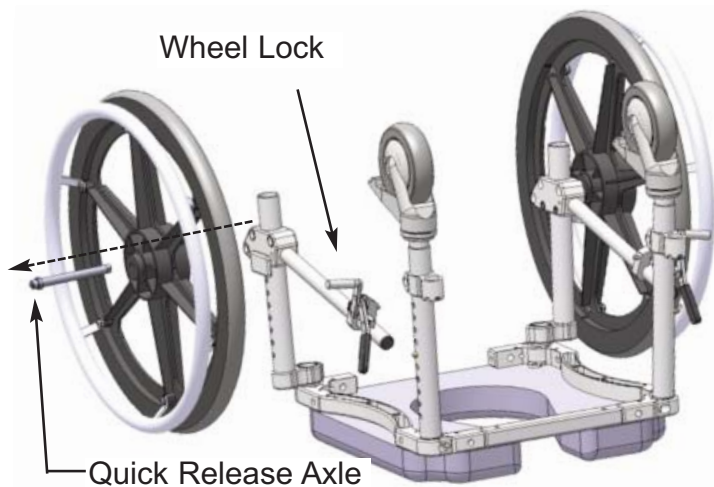

Figure 10
**C Removal of 20", 22" or 24" Wheels:** If desired (for storage/cleaning purposes) the big wheels can be removed from the leg assemblies by completing the following steps (Refer to Figure 10).